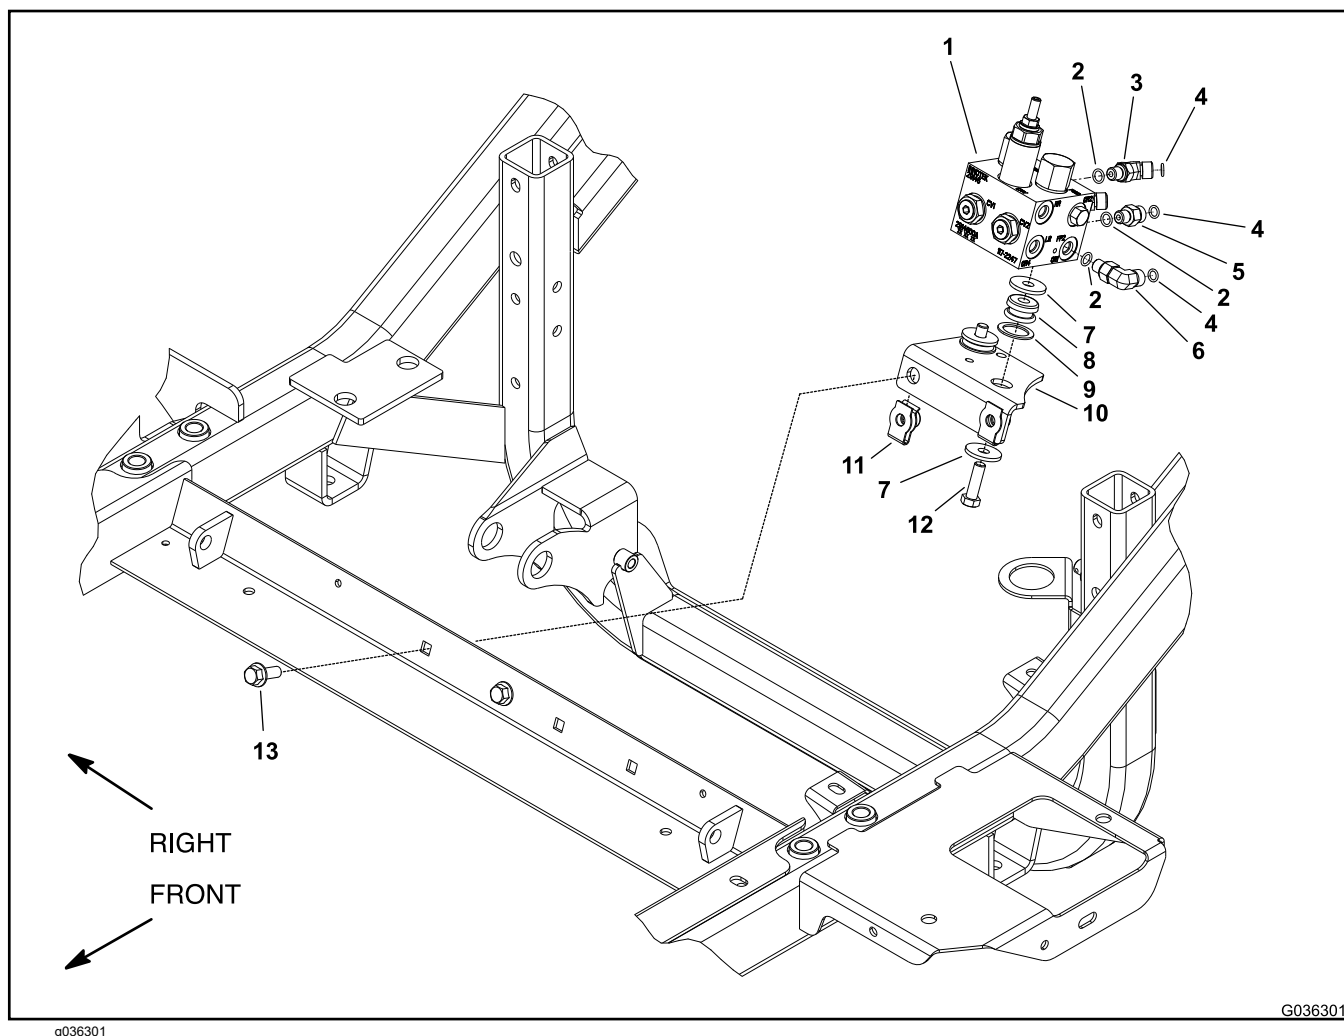

Figure 133
9. Remove the 2 bolts (item 12 in Figure 133) and 4 washers (item 7 in Figure 133) that secure the traction manifold assembly to the mount plate, and remove the traction manifold assembly from the machine.
10. If the mounts (item 8 in Figure 133) are worn or damaged, note the location of the washer (item 9 in Figure 133) for assembly purposes. Remove and replace damaged mounts and ensure that the washer is installed between new mounts and top of the mount plate.
4. Position the 2 washers (item 9 in Figure 133) to the top of the mounts. Secure the traction manifold assembly to the machine with 2 bolts and 2 washers (item 7 in Figure 133).